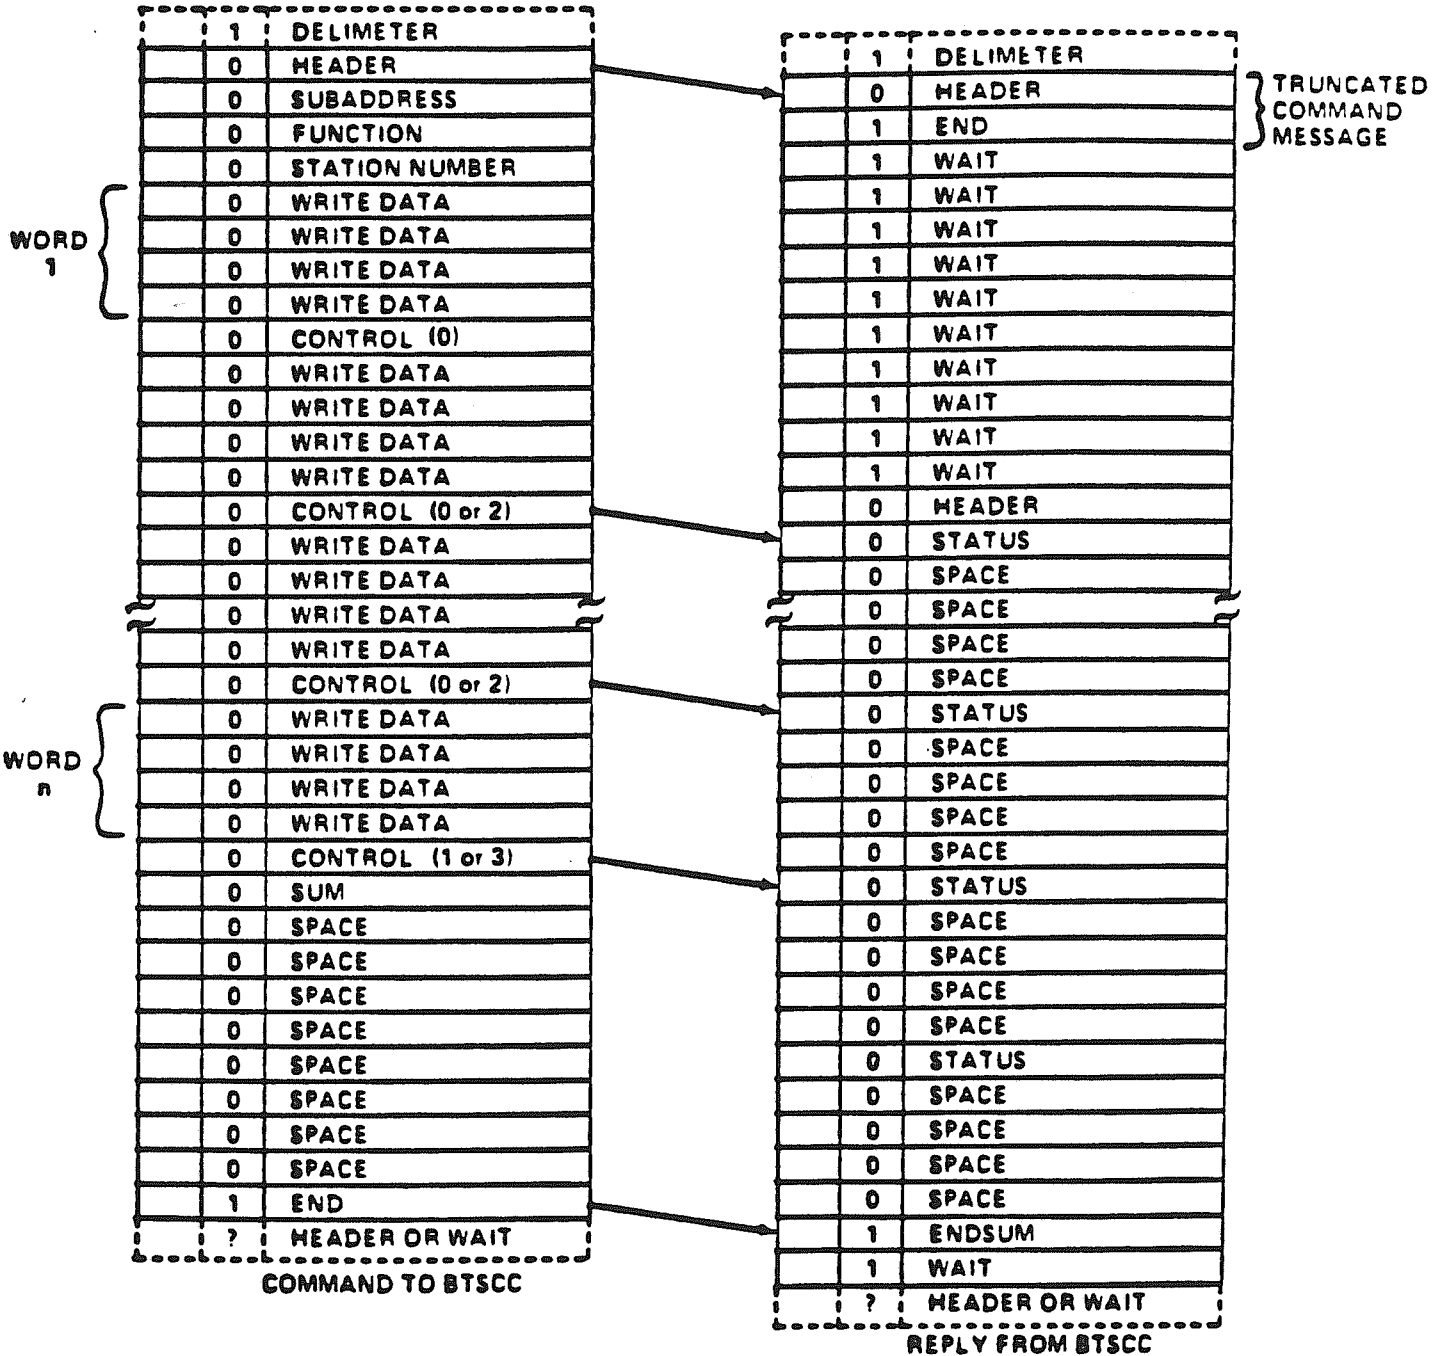

Figure 1: Command/Reply Sequence for Block Write Operation
Figures 1 and 2 show the bytes associated with the Command/Reply sequence for a block mode operation (single-NAF or list-mode). Note that it is a logical extension of the L-2 single-transaction sequence.
Refer to Figure 1. For this sequence, the BTSCC receives an N(30) * F(12) * A(2) command, indicating a LIST 2 selection. The remaining sequence is then:
- A. After the Station Number (N) byte is received and a "LIST 2" sequence identified, the BTSCC sets signal line LIST 2. This line is part of the "private bus" cable between the units. The RAM address pointer in the LSM is set to word 1024, the start of the OUTPUT NAF LIST 2.
- D. A CONTROL (0) byte is received, indicating valid write data in the write buffer and the start of a Dataway cycle.